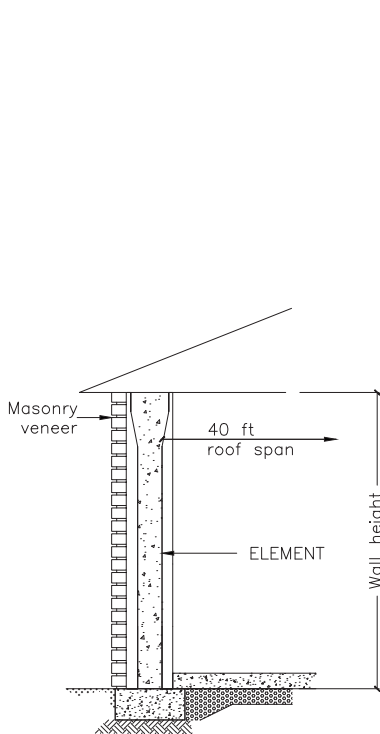

Fig 3A
- One storey Element supporting wood roof frame (Fig. 3A)
The above-grade tables shall be used in conjunction with the notes listed below, the building limitations noted in the “Reinforcement Tables” section, and Figures 3A to 3B, which form the basis of this table.